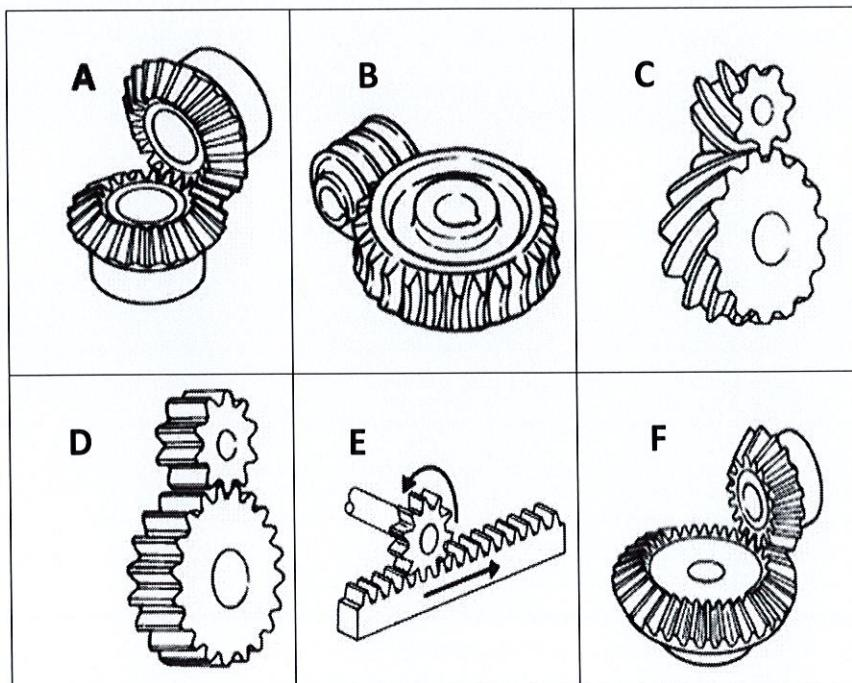

Figure 4(b) / Rajah 4(b)
- (b) Based on **Table 4(b)**, match the type of the gear on **Figure 4(b)** below.